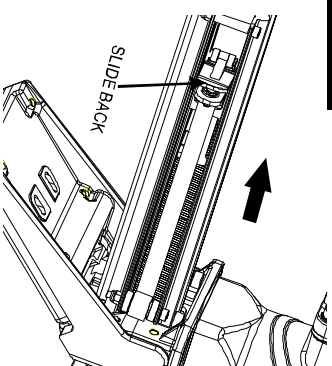

Figure 3
3. This tool uses a spring loaded bypass lever in order to load and upload the nails. Once the nails are properly inserted, pull the pusher(B) completely back, pressing against the bypass lever (C) of the pusher.(See figure 3)